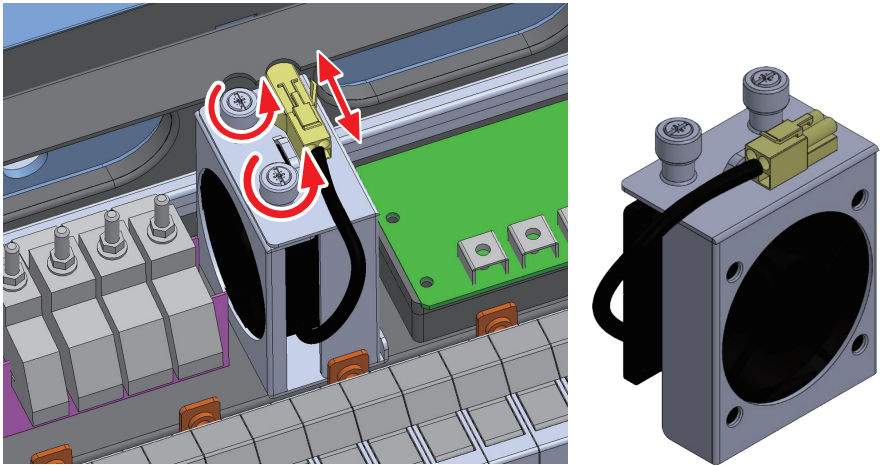

Figure 5-16: Procedure for Removing WB fan assembly
- (1) To access Remove the two thumb screws shown in **Figure 5-16** and store outside the fan cabinet.
- (2) Disconnect the fan power connector (yellow body shown in **Figure 5-16**) located at the right front of the fan cover.
- (3) Lift the entire fan assembly from the WB.
- (4) Clean assembly or replace with a new fan.
- (5) Reassemble using a tightening torque of 8.85 lbf-in (1 Nm)